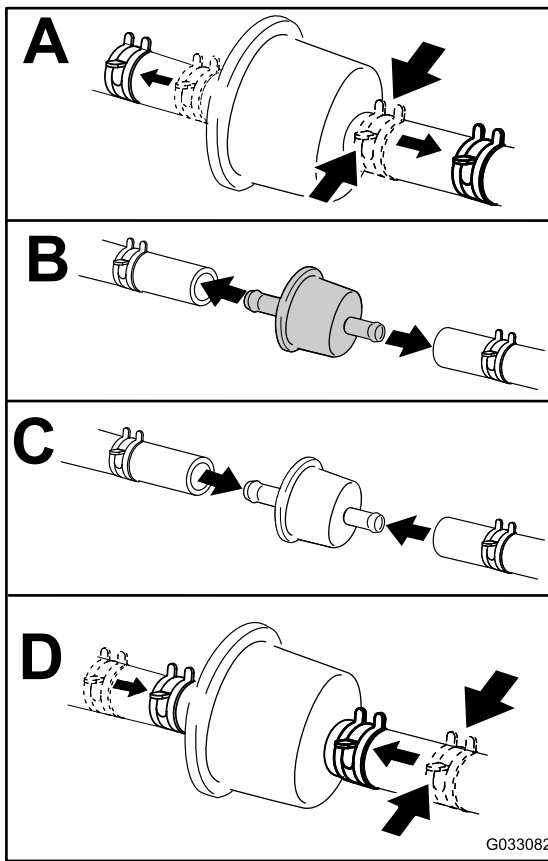

Figure 63
4. Close the fuel-shutoff valve under the seat (Figure 63).